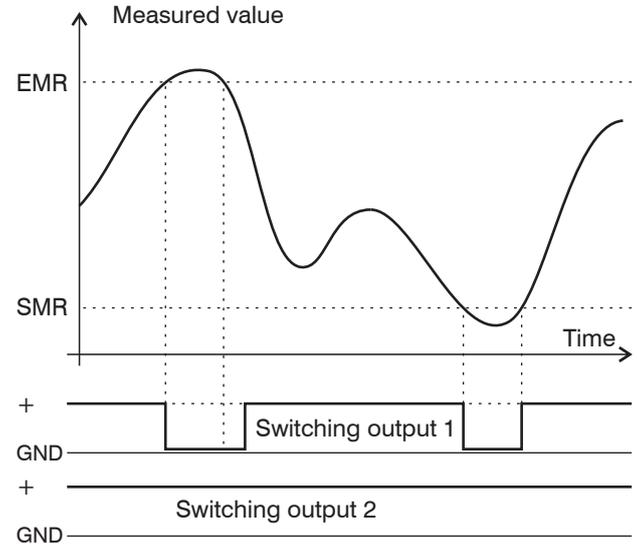

Fig. 27 Signal sequence for the switching outputs in the operation mode „Sync error“ and „Trigger error“
- the object to be measured is outside the measurement range, see Fig. 27,